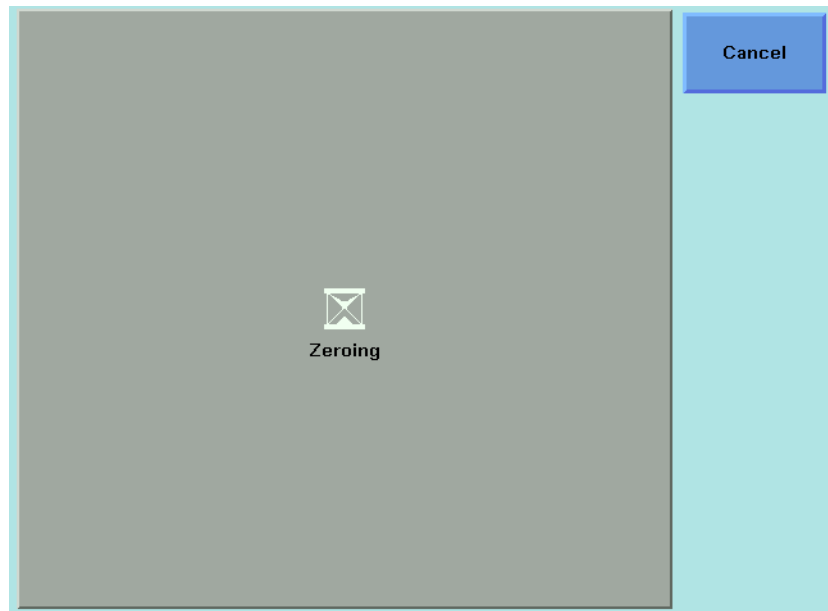

Figure 60 Zeroing Screen
- 3 Move to the *<Zero>* option to zero the current power measurement channel or the *<Zero All>* option to zero all power measurement channels. You will see the screen shown in Figure 60 on page -108, this appears for around 30 seconds while zeroing is performed.